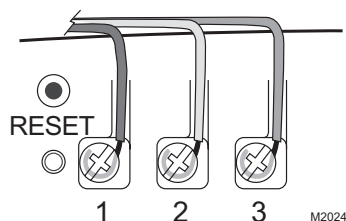

Fig. 7. Looping Enviracom appliance or common node wire around UV Enviracom base screw terminals.
14. Hook up corresponding appliance wires to the Enviracom communication bus located on the bottom of the UV device base. Be sure to loop wire of other Enviracom appliances or Enviracom common node around the UV base Enviracom screw terminals 1, 2 and 3. See Fig. 7.